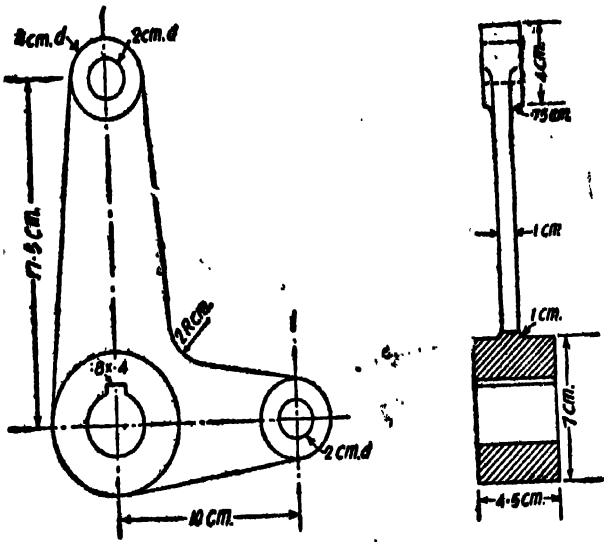

Fig. 5'34
11. Calculate the wt. of M.S. bell crank lever. Density of M.S. may be taken as 8 gm./c.c. (Fig. 5'34).